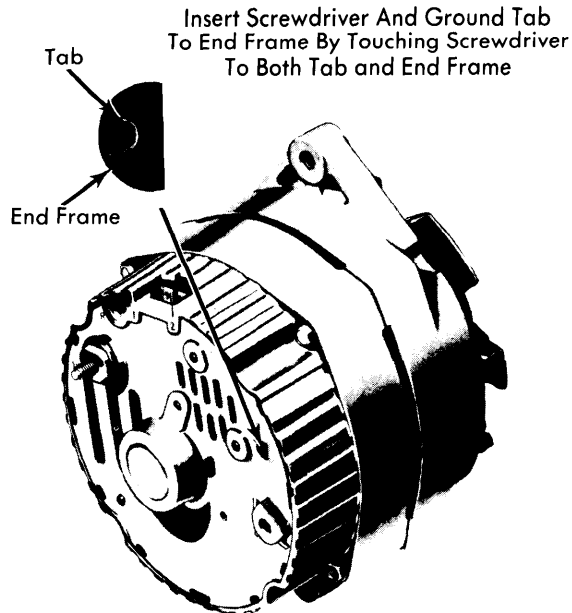

Fig. 3 View Showing Field Ground Tab Accessible Through Hole in End Frame
2) Disconnect battery ground cable. Connect an ammeter in the circuit at the "BAT" terminal of alternator. Reconnect battery ground cable. Turn on all available accessories. Connect a carbon pile across battery. Operate engine at moderate speed and adjust carbon pile as required to obtain maximum current output. If ampere output is within 10 amps of rated output as stamped on alternator case, alternator is good. If output is not within 10 amps of rated output, ground the field winding by inserting a screwdriver into test hole. See Fig. 3. **CAUTION** — Tab is within $\frac{3}{4}$ " of casting surface, do not force screwdriver deeper than one inch into end frame.